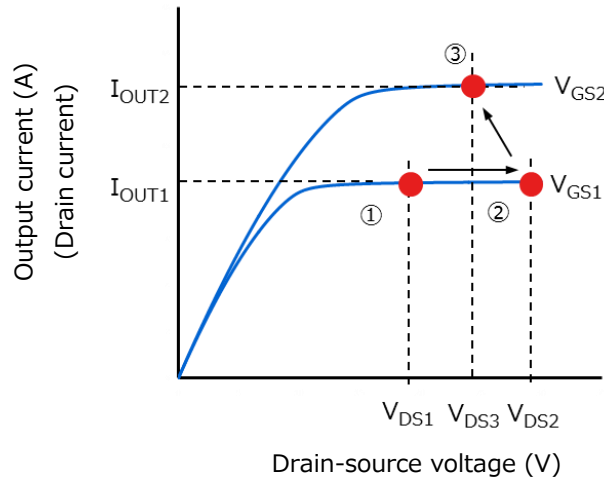
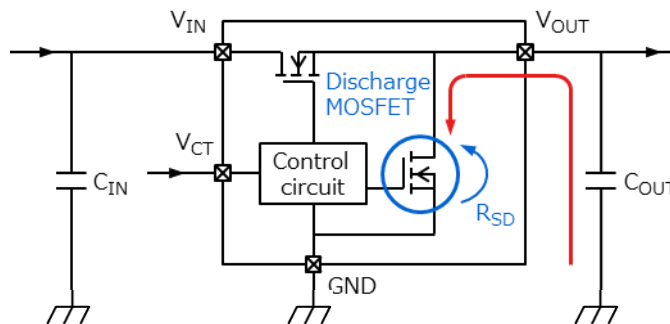

Figure 6.14 Q points in the event of a sharp increase in output current
Figure 6.17 Output discharge circuit
Suppose that an LDO connected to the load impedance (Z_{L1}) has constant output voltage and current, with the MOS output transistor operating at ① in Figure 6.14. Let the drain-source and gate-source voltages at this time be V_{DS1} and V_{GS1} , respectively. When the MOS pass transistor turns on, causing a sharp increase in the output current from I_{OUT1} to I_{OUT2} , the internal error amplifier of the LDO initiates a feedback operation to regulate the output voltage. However, the output voltage does not return to the normal level immediately, depending on the frequency characteristics of the feedback loop, producing a drop in the output voltage as indicated by ② in Figure 6.14. At this time, the operating point (Q point) of the MOS output transistor moves from V_{DS1} (①) to V_{DS2} (②). However, the gate-source voltage (V_{GS}) does not increase to the V_{GS2} level necessary to provide I_{OUT2} . The feedback operation continues, causing V_{GS} to move to V_{GS2} at the Q point indicated by ③, making it possible for the LDO to provide I_{OUT2} . As a result, the output voltage ceases to decrease and begins to return to the normal level.
Suppose that the MOS output transistor is operating at ④ in Figure 6.14, maintaining a regulated output voltage, with the output current I_{OUT2} flowing through the load impedances (Z_{L1} and Z_{L2}) connected to the LDO. Let the drain-source and gate-source voltages at this time be V_{DS2} and V_{GS2} , respectively. When the MOS pass transistor turns off, causing a sharp decrease in the output current from I_{OUT2} to I_{OUT1} , the internal error amplifier of the LDO initiates a feedback operation to regulate the output voltage. However, the output voltage does not return to the normal level immediately, depending on the frequency characteristics of the feedback loop, producing a rise in the output voltage as indicated by ⑤ in Figure 6.14. At this time, the Q point of the MOS output transistor moves from V_{DS2} (④) to V_{DS1} (⑤) as shown in Figure 6.17. However, the gate-source voltage (V_{GS}) does not decrease to the V_{GS1} level necessary to provide I_{OUT1} . The feedback operation continues, causing V_{GS} to move to V_{GS1} at the Q point indicated by ⑥, making it possible for the LDO to reduce the output current to I_{OUT1} . As a result, the output voltage ceases to increase and begins to return to the normal level.